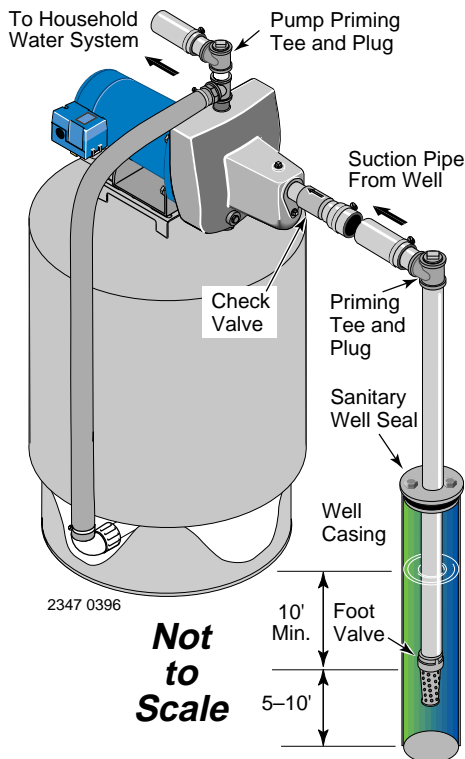

Figure 2: Cased Well Installation
CASED WELL INSTALLATION, 2" OR LARGER CASING (Figure 2)
- Step 2. Assemble the foot valve, strainer, and well pipe (see Figure 2). Make sure that the foot valve works freely.
Step 4. Install a priming tee, priming plug, and suction pipe to the pump (see Figure 2). Connect the pipe from the well to the pump suction port, using the fewest possible fittings – especially elbows – as fittings increase friction in the pipe (however, include a foot valve – see Figure 2). The suction pipe should be at least as large as the suction port on the pump. Use teflon tape or a teflon-based pipe joint compound on threaded pipe joints. Support the pipe so that there are no dips or sags in the pipe, so it doesn't strain the pump body, and so that it slopes slightly upward from the well to the pump (high spots can cause air pockets which can air lock the pump). Seal the suction pipe joints with teflon tape or a teflon based pipe joint compound. Joints must be air- and water-tight. *If the suction pipe can suck air, the pump cannot pull water from the well.*